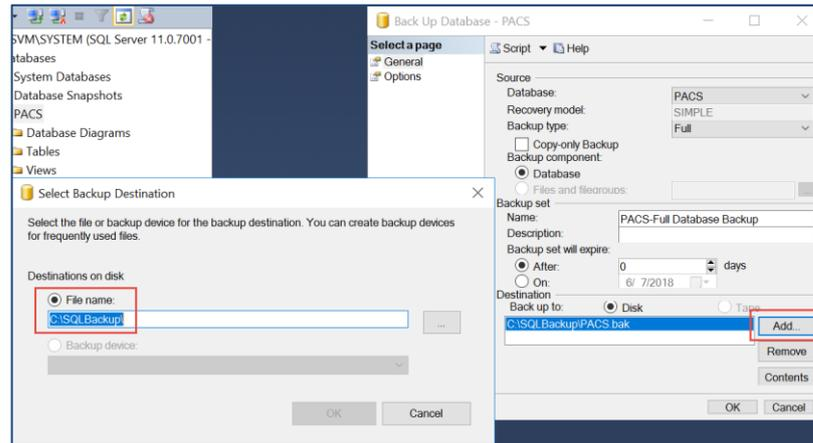

Figure 7. Back Up Database – PACS window
3. The **Back Up Database – PACS** window opens as per Figure 7.